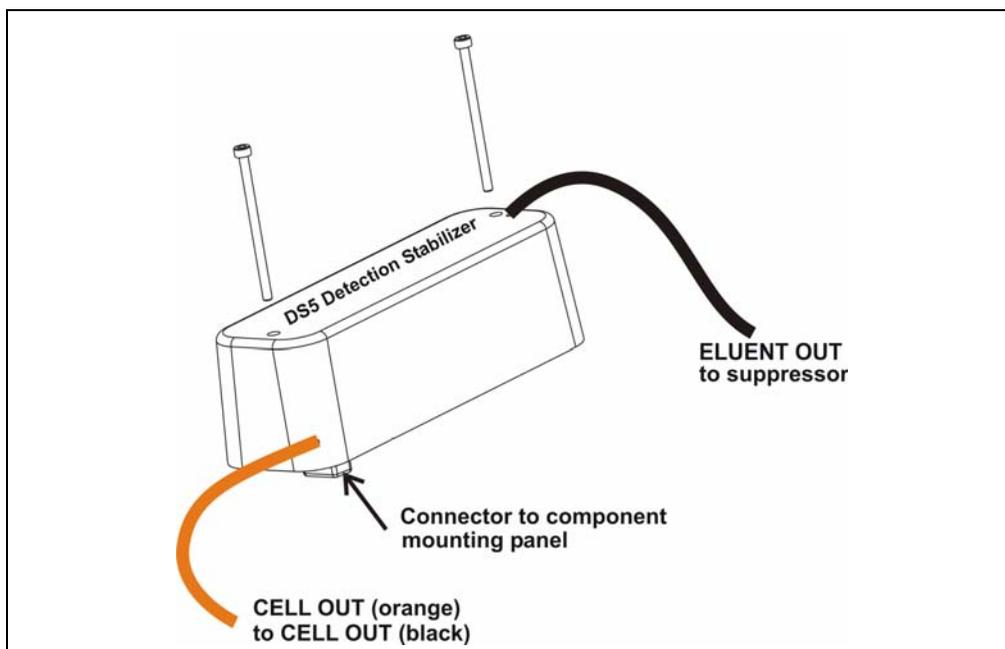

Figure 5-9. DS5 Detection Stabilizer Assembly
3. Disconnect the black **ELUENT OUT** line from the **ELUENT OUT** port on the suppressor (see Figure 5-9).